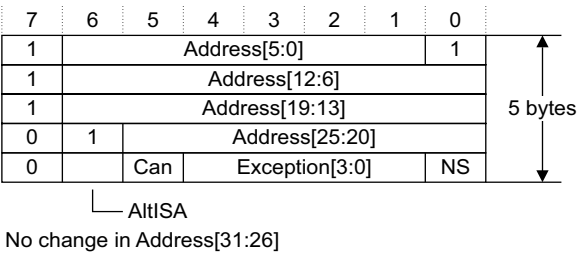

Figure 7-24 Jazelle branch with exception information bytes and no change in address bits [31:26], alternative encoding
- Figure 7-24 on page 7-318 shows the trace packet for a branch in Jazelle state when there is no change in bit [31:26] of the address.